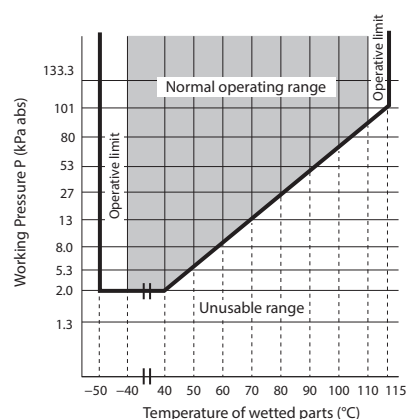

Figure 1. Working pressure and temperature of wetted parts section (for code A of Fill fluid)
GTX31D	2.0 kPa abs to 21 MPa {0.29 psia to 3,045 psi} {15 mmHg abs to 210 kgf/cm ² } ^{*1 *2 *5} (For vacuum pressure, see Figure 1, 2)
GTX32D	2.0 kPa abs to 42 MPa {0.29 psia to 6,091 psi} {15 mmHg abs to 420 kgf/cm ² } ^{*3} (For vacuum pressure, see Figure 1, 2)
GTX41D	2.0 kPa abs to 21 MPa {0.29 psia to 3,045 psi} {15 mmHg abs to 210 kgf/cm ² } ^{*1 *2 *5} (For vacuum pressure, see Figure 1, 2)
GTX42D	2.0 kPa abs to 42 MPa {0.29 psia to 6,091 psi} {15 mmHg abs to 420 kgf/cm ² } ^{*3} (For vacuum pressure, see Figure 1, 2)
GTX71D	2.0 kPa abs to 20 MPa {0.29 psia to 3045 psi} {15 mmHg abs to 210 kgf/cm ² } ^{*1 *2 *5} (For vacuum pressure, see Figure 1, 2)
GTX72D	2.0 kPa abs to 42 MPa {0.29 psia to 6,091 psi} {15 mmHg abs to 420 kgf/cm ² } ^{*3} (For vacuum pressure, see Figure 1, 2)
*6. For vacuum pressure, see Figure 1, 2.